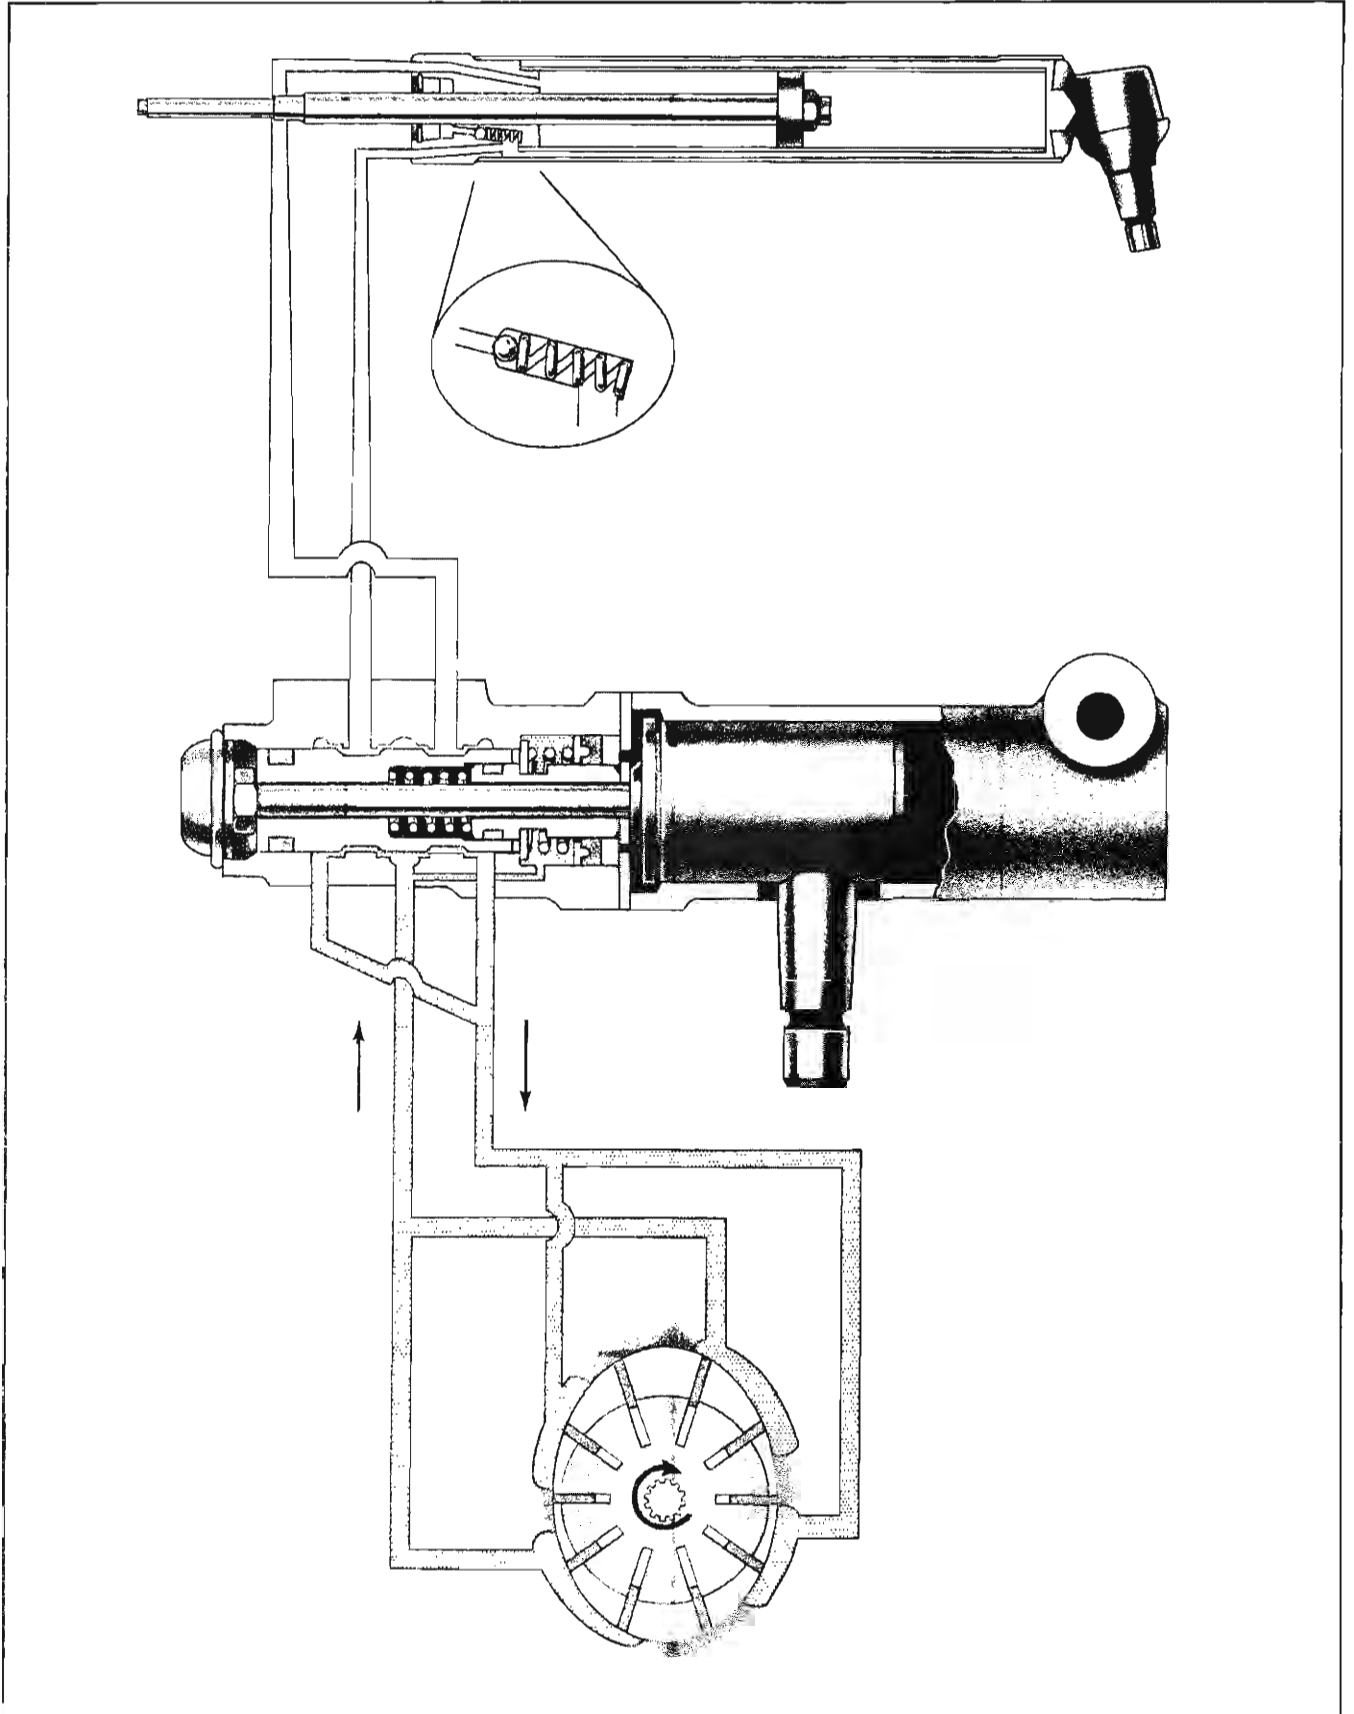

Fig. 9A-24 Operation in No Turn Position
#### **NO TURN POSITION (FIG. 9A-24)**
**RIGHT TURN POSITION (FIG. 9A-25)**